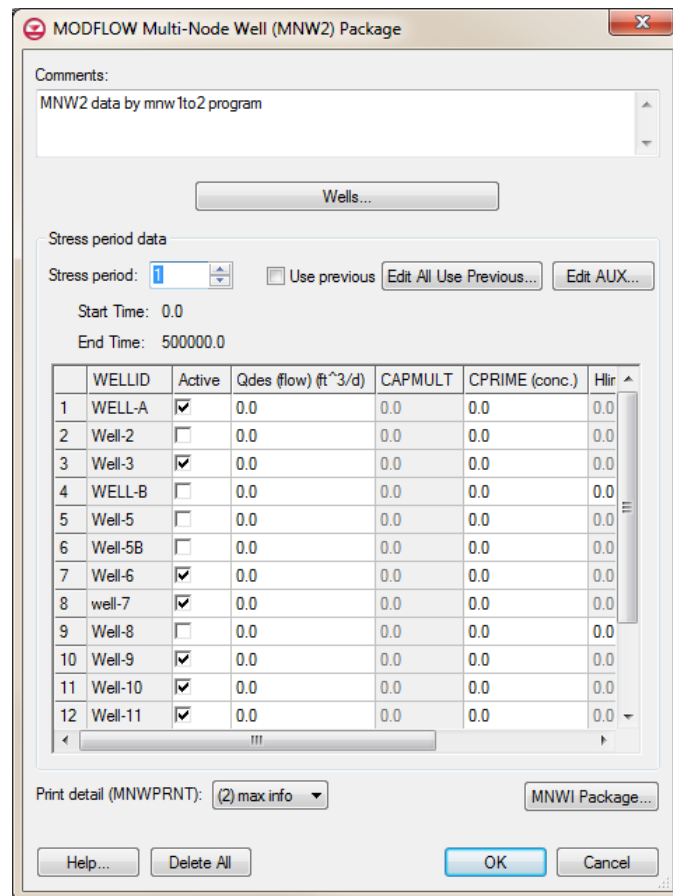

Figure 5 MNW2 Package dialog
1. Select *MODFLOW | Optional Packages | MNW2 - Multi-Node Well...* to open the *MODFLOW Multi-Node Well (MNW2) Package* dialog (Figure 5).